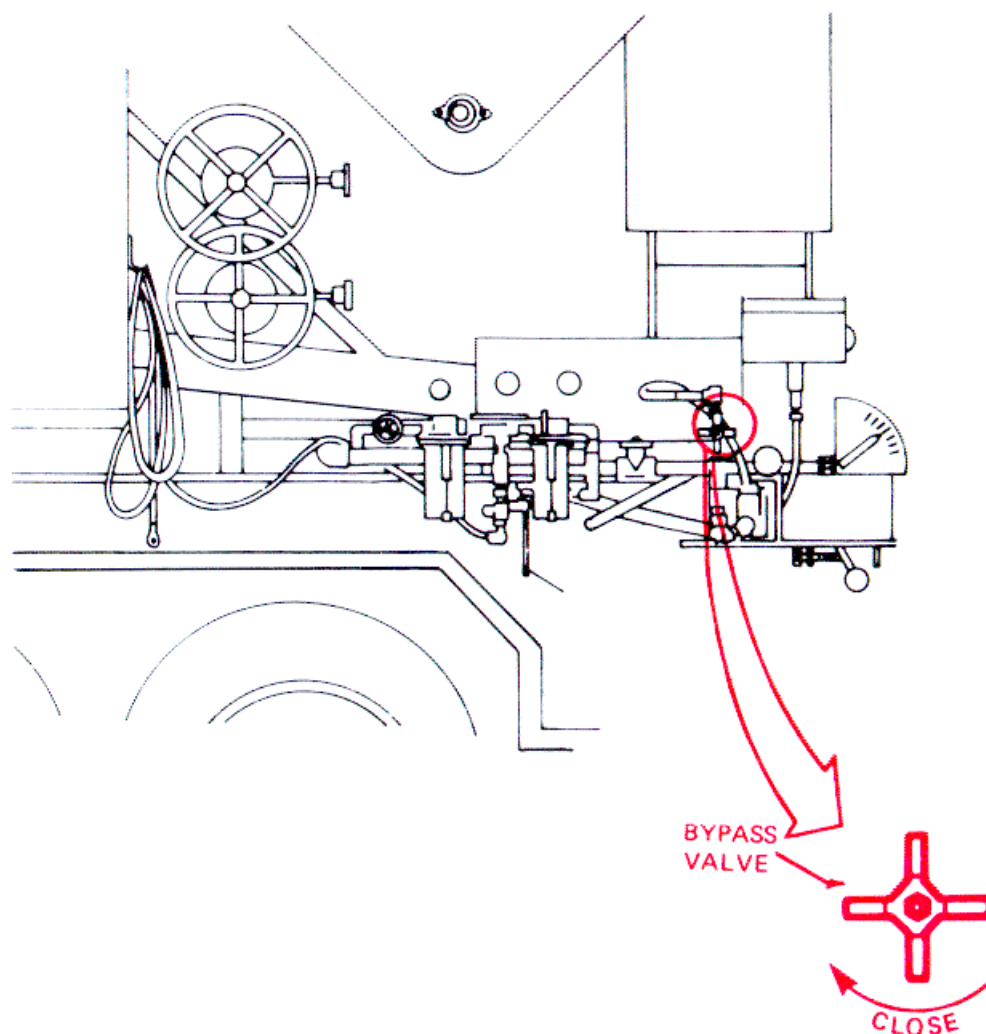

Figure 2-39. Bypass Valve.
- c. Check Bypass Valve. (See fig. 2-39.) Valve should be closed finger tight (turn clockwise).